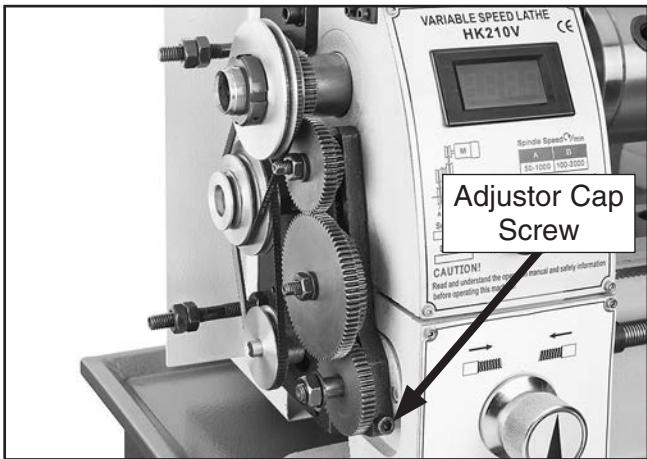

Figure 92. Adjuster cap screw location.
5. Loosen adjuster cap screw shown in **Figure 92**, and pivot adjuster down to disengage gears.